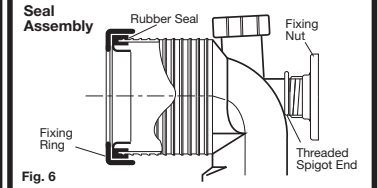

Fig. 6
- 8- Position rubber seal over the front of the connector and secure with the fixing ring, as detailed in **Fig. 6**.